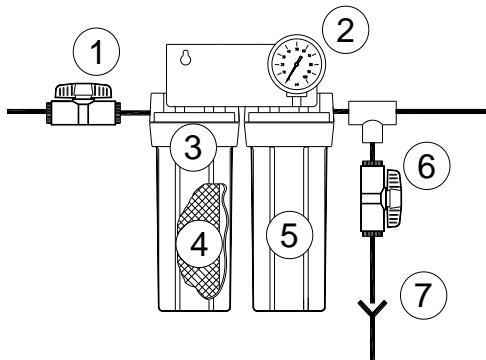

FIGURE 10: SANITIZER KIT
5. Open the supply valve (Fig.10, #1) and fill the tank to 40 psi then close the supply valve.
6. Open the drain valve (Fig.10, #7) on the sanitizer and the storage tank and drain completely.
8. Remove the housing (Fig.10, #5) from the sanitizer and add the sanitizer required (Table 2) for the size of the tank you are sanitizing. Replace the housing. Close the drain valve on the sanitizer kit.
9. Slowly open the supply valve (Fig.10, #1). Leave the valve open until the gauge (Fig.10, #2) shows 40 psi, and then turn off the valve.
11. Open the supply valve (Fig.10, #1) and fill the tank to 40 psi.